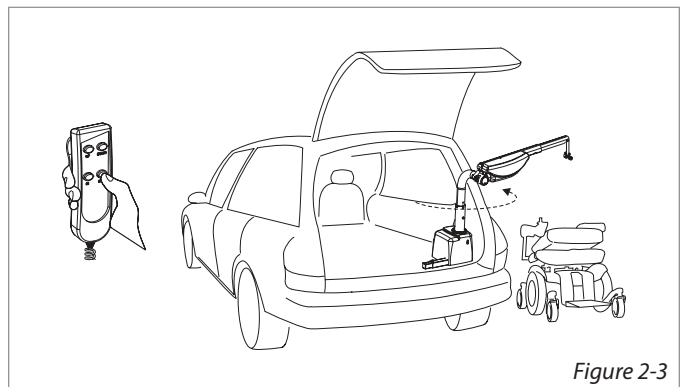

Figure 2-3
3. **Press the 'OUT' button** on the hand controller to rotate the arm outside the vehicle. [Figure 2-3]